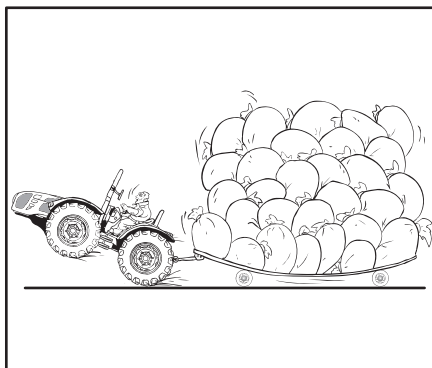

Fig. 2.16
- Do NOT overload and do NOT ballast beyond the load capacity of your tractor. Never add ballasts to compensate for overloading. Reduce the load (Fig. 2.16).